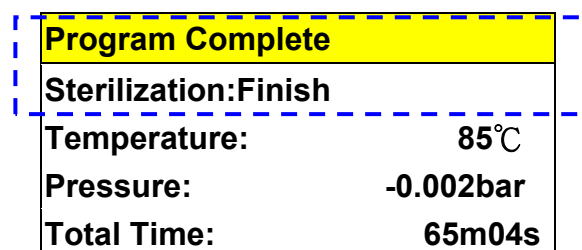

Figure 106- Program Complete
- G. On completion, the buzzer will sound and the Program Complete message is displayed as shown in Figure 106- Program Complete.